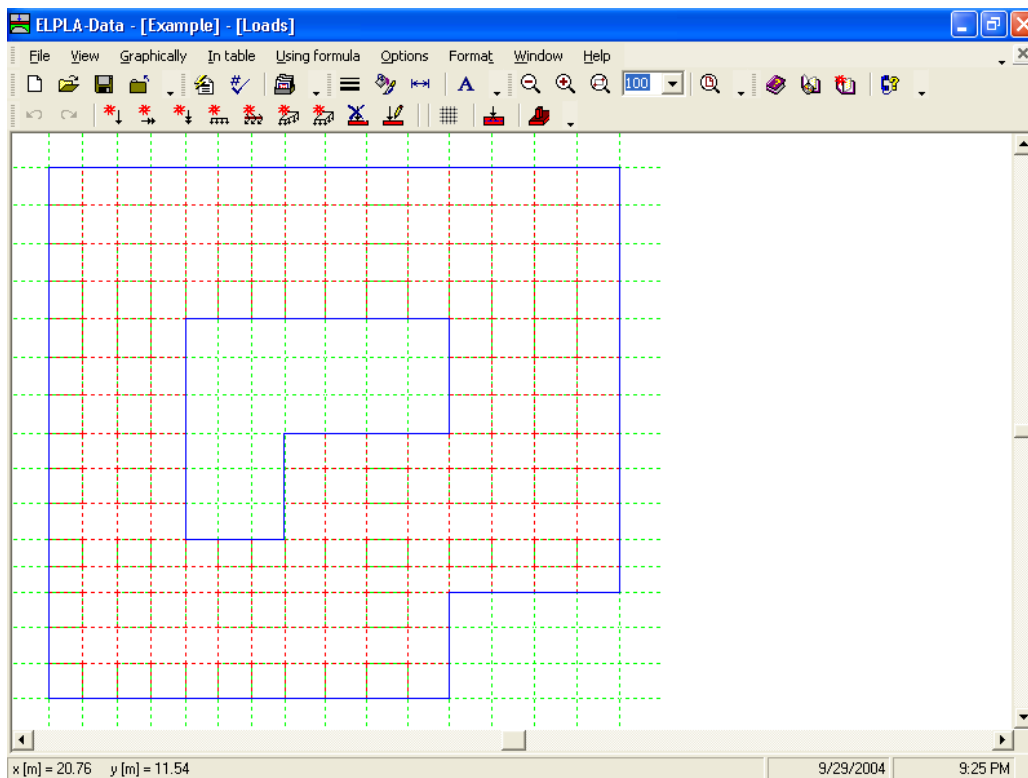

Figure 1-27 "Loads" embedded program
To define the loads, choose "Loads" command from "Data" menu. The following embedded program in Figure 1-27 appears.
In *ELPLA*, entering loads may be carried out either numerically (in a table) or graphically using the commands of "Graphically" menu in Figure 1-27. In this example the user will learn the definition of loads numerically.
- Choose "Point loads" command from "In Table" menu in the window of Figure 1-27. The following list box in Figure 1-28 appears. *ELPLA* can distribute concentrated loads under columns. In this example, data corresponding to column dimensions are not required. Therefore, the user can take these data from the default column dimensions and consider all loads have column type 1